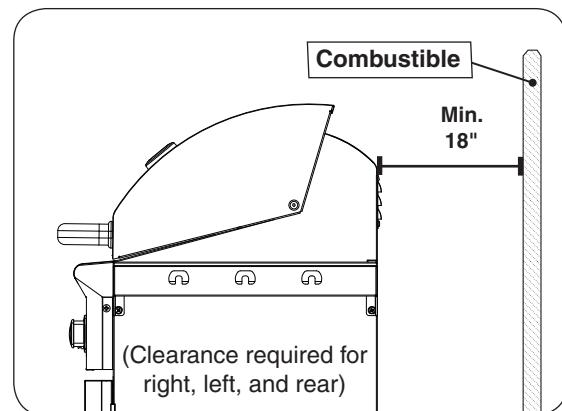

Fig. 10-2 Clearance 'A' Diagram
- The grill must have a minimum of 18" right, left, and rear clearance from any combustible wall (see Fig. 10-2).